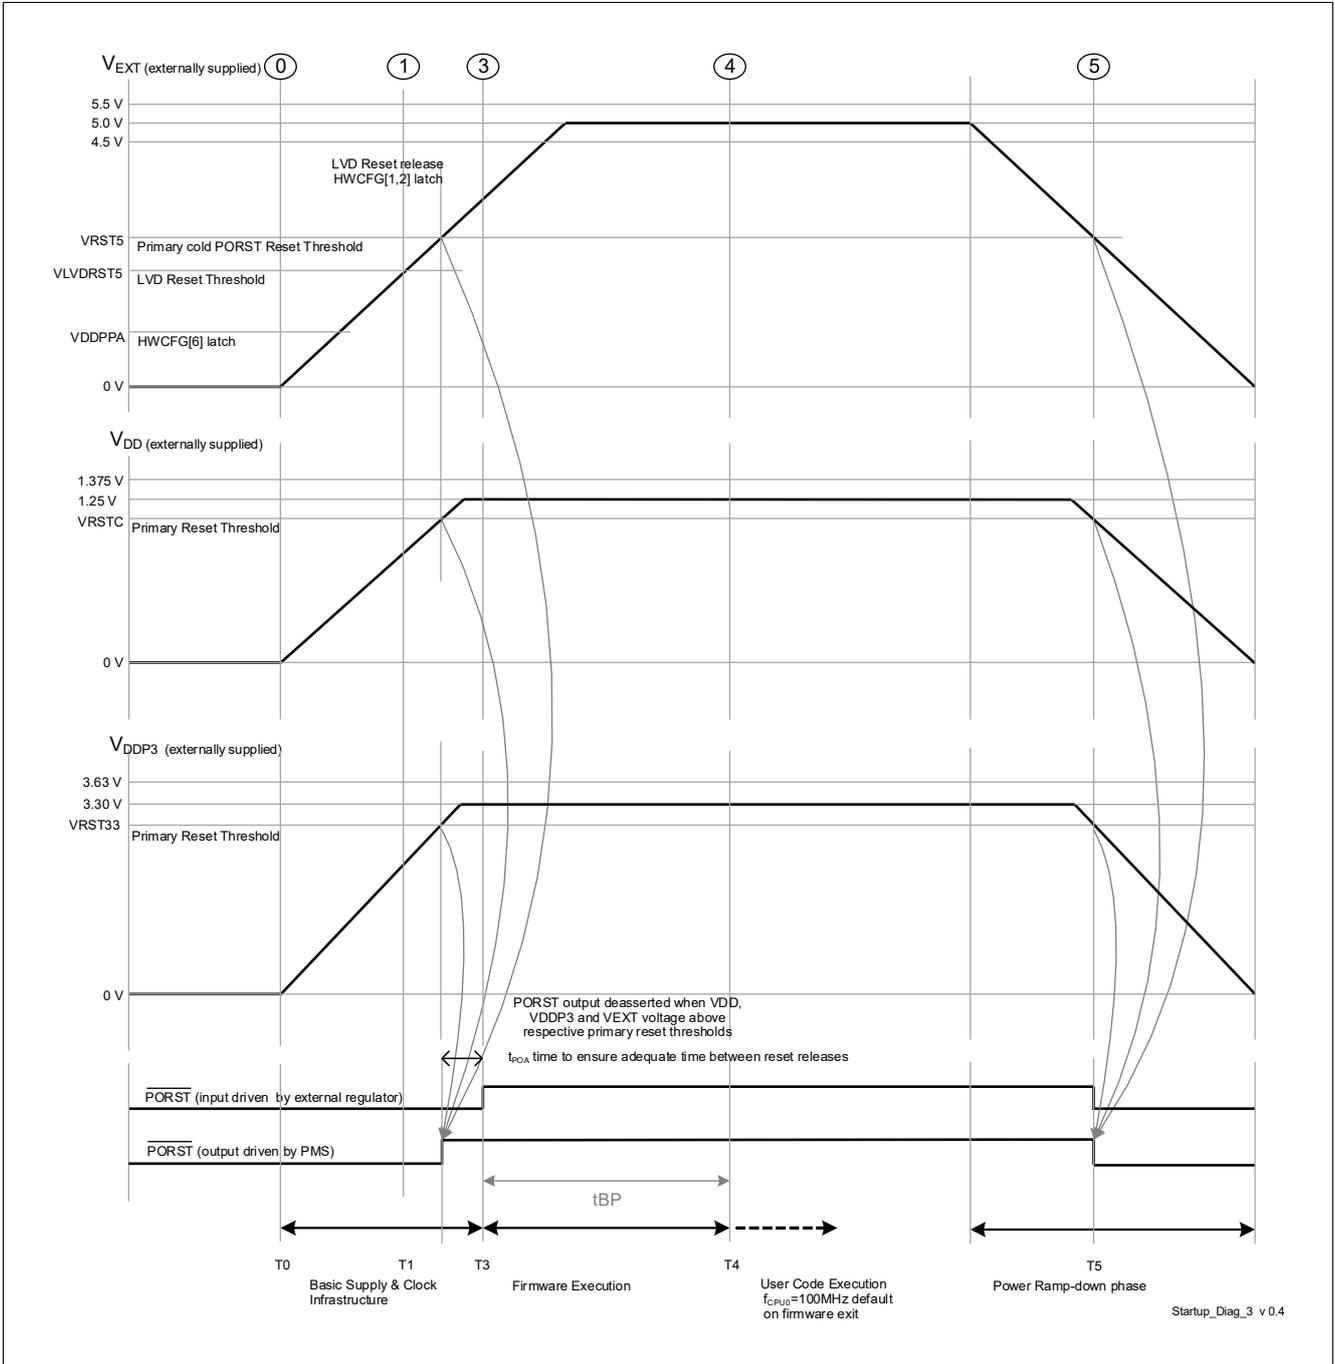

Figure 3-6 External Supply mode (h) - VEXT, VDDP3 & VDD externally supplied
- The power sequence as shown in Figure 3-6 is enumerated below